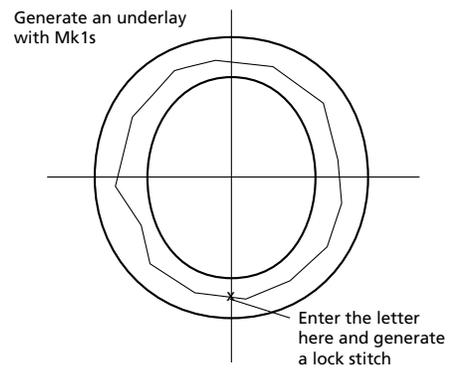

Figure 3-25
1. Perform the needle up, Mk1, normal stitch, Mk1 sequence to move to the bottom middle area of the letter **o** (see Figure 3-25).
2. Generate lock stitches in the letter **o** in a vertical direction as shown in Figure 3-25.
3. Using all Mk1s, generate a simple running stitch underlay through the middle and completely around the letter (see Figure 3-25). Finish with a Mk1 near where you put the lock stitch.